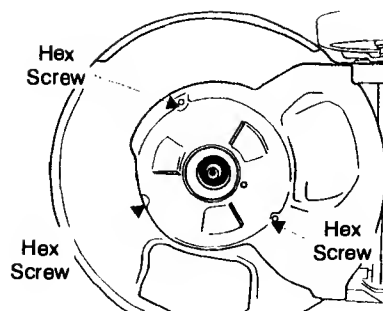

Figure 18
6. Using a 3/8" socket remove three hex screws holding the baffle to the deck. See figure 18.